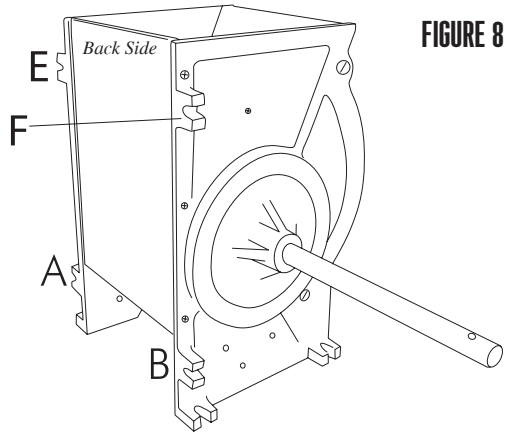

FIGURE 8
2. Align holes A, B, E & F on the Mounting Board with Feet A, B, E, & F (**FIGURES 8 & 9**). The side of the Mounting Board with the stepped holes should face toward you.